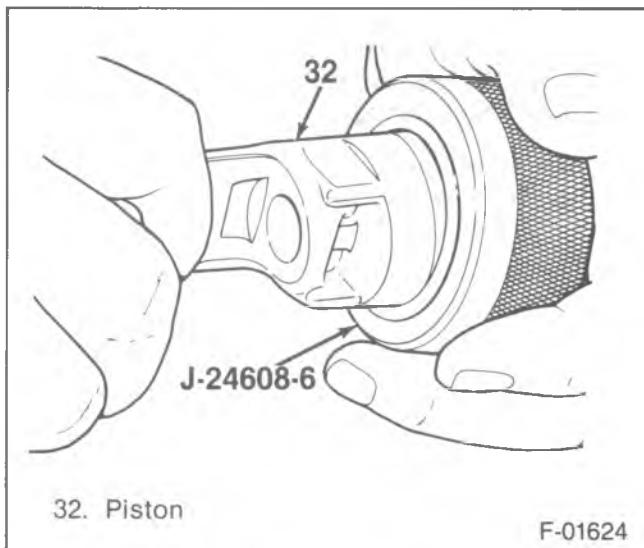

Figure 38—Sizing the Piston Ring
- J-24608-5 (installer) will keep the J-24608-2 (guide) inside when the piston ring is installed on the piston (32).
- Remove the guide from the installer and do not store the guide in the installer because the seal will be stretched and weakened during storage. This can cause the seal not to hold the ring installer segments tight enough to the J-24608-2 (guide) when installing the piston ring (33) to the piston (32).
4. Piston (32) to J-24608-6 (figure 38).
- Lubricate the piston ring (33) area with 525 viscosity refrigerant oil.
- Rotate the piston (32) and ring (33) into J-24608-6 at a slight angle until the piston is inserted against the center stop of J-23608-6.